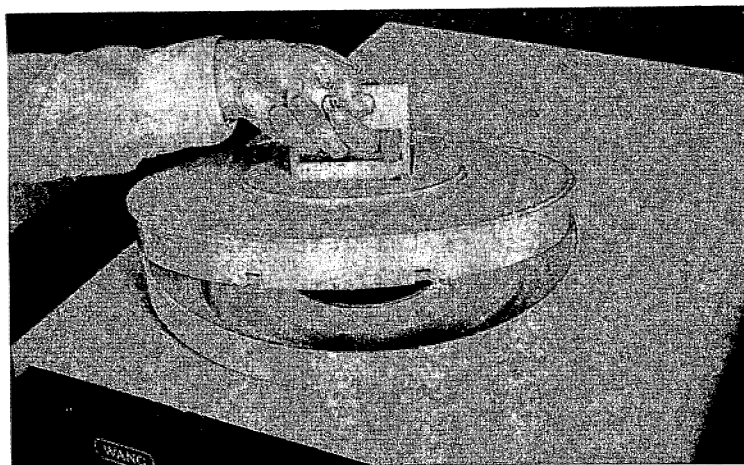
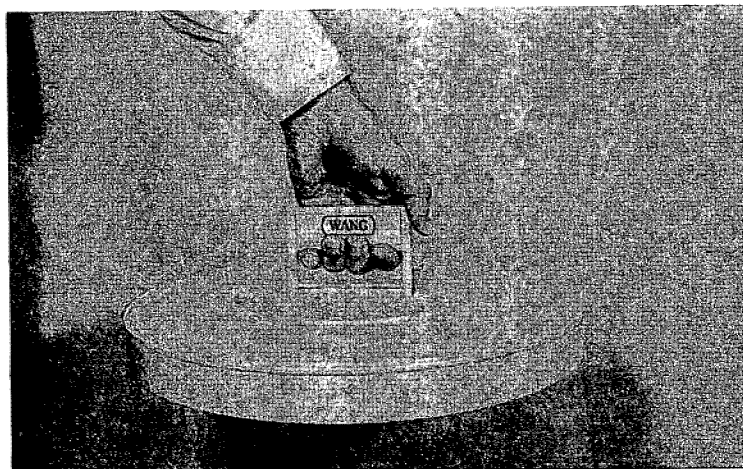

Figure 2-7. Locking the Cartridge onto the Dust Cover
Figure 2-8. Carrying a Sealed Cartridge
- Step 5 Turn the dust cover over and set the disk cartridge into it (Figure 2-7). When the cartridge handle is lowered, it locks the dust cover onto the disk cartridge. Both cover and cartridge can be carried as a unit by lifting the handle again without touching the tab (see Figure 2-8).